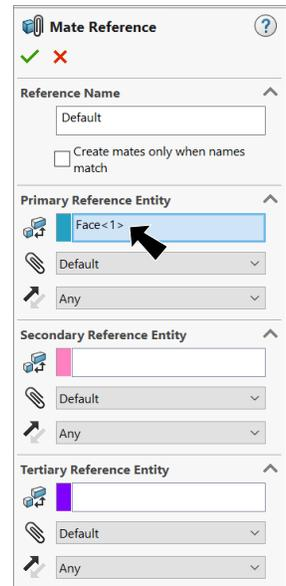

Fig. 6
Step 3. In the Mate Reference Property Manager click OK, Fig. 6.